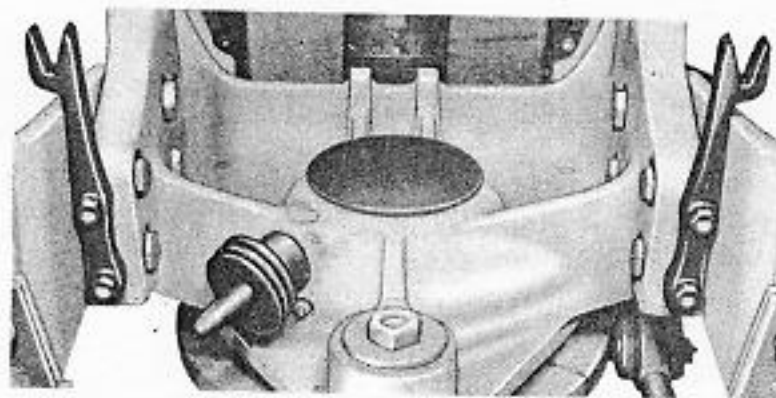

Figure 15. Correct Installation of Cocking Bar Clips.
Cocking Bars. Assemble the cocking bar clips (454138) on the carriage with four screws (482533). See Fig. 15 for their correct position. Assemble the cocking bars (455385—R.H. and 455386—L.H.) on the carriage with the pivot pins (482497). Place a cocking-bar pivot-pin spring (482499) and washer (482500) on each pivot pin, with the hollow side of the washer toward the end of the pivot pin. Compress the spring by forcing the washer into the counterbore of the carriage arm and insert a pivot-pin retaining pin (482498) in the hole of each pivot pin, and allow the washer to snap back and secure the retaining pin.
9. Shields. Fasten the shield brackets (367729-1—L.H. and 367729-2—R.H.) to the carriage with eight bolts (299813-2), nuts (299813-3), and lock washers (299932-3). The bolt heads are to be on the inside of the carriage arms as shown in Fig. 15. Fasten the shield plates (375781-1—R.H. and 375781-2—L.H.) to the shield brackets with eight bolts (299813-6) and nuts (299813-5). The bolt heads should be on the front side of the shield plates. The shield plates must be installed with their hardened faces to the front. These faces are so marked and, also, the lower inner corner of the left hand shield is cut off diagonally. Fasten the shield strap (455387) on the back side of the shields, with its hump up, with four bolts (299813-4) and nuts (299813-5). The bolt heads should be on the front side of the shields.